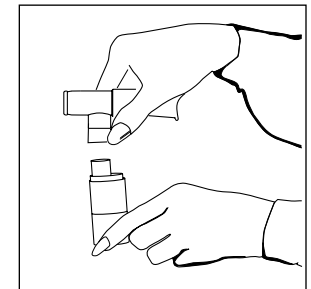

Figure 5
7. Assemble mouthpiece and t-piece (if applicable) and insert into the top of the nebulizer cap (**Fig. 5**). If using an aerosol mask, insert the bottom part of the mask directly into the top of the nebulizer cap.